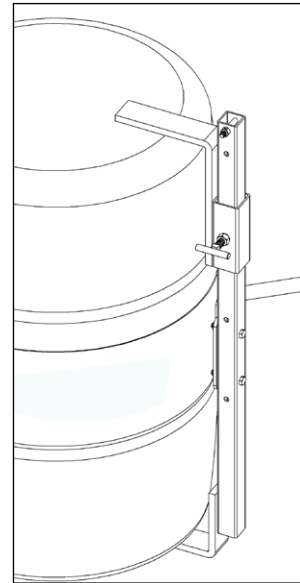

Figure 2.1
- The **Bracket Assembly** (Part # 4556SS-P) is **required** to handle a plastic drum without a top rim (see figure 2.1). It is also recommended to more securely handle a fiber drum. You can use the Bracket Assembly with a 55-gallon plastic, steel or fiber drum. The brace at top and bottom of the drum prevent it from slipping lengthways through the drum holder. It adjusts for a drum 31" to 39" (79 to 99 cm) tall.